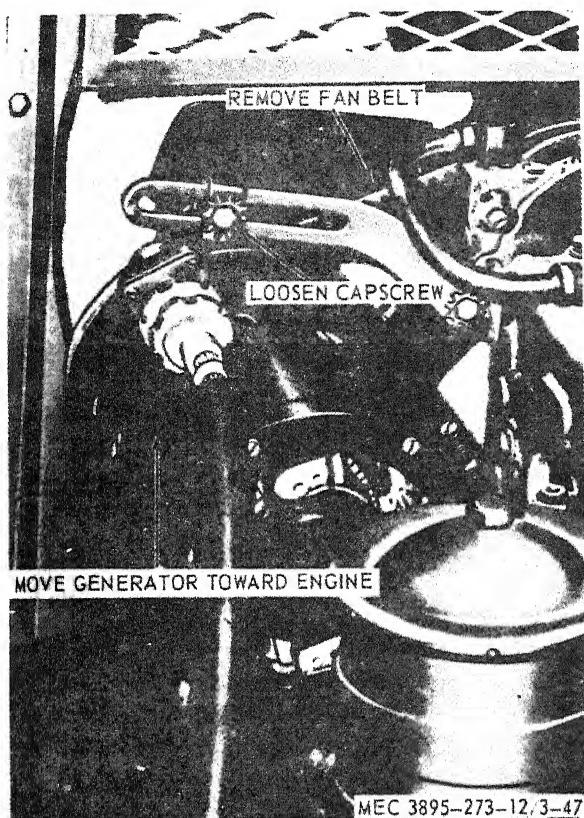

Figure 3-44. Fan belt, removal and installation.
- (1) Remove the hydraulic pump drive belt (para 3-112).
(2) Remove the grille (para 3-75).
(3) Remove the fan belt as instructed on figure 3-44.
- (1) Install the fan belt in reverse of the instructions on figure 3-44.
- (2) Adjust the fan belt (para 3-18).
- (3) Install the hydraulic pump drive belt (para 3-112).
- (4) Install the grille (para 3-75).